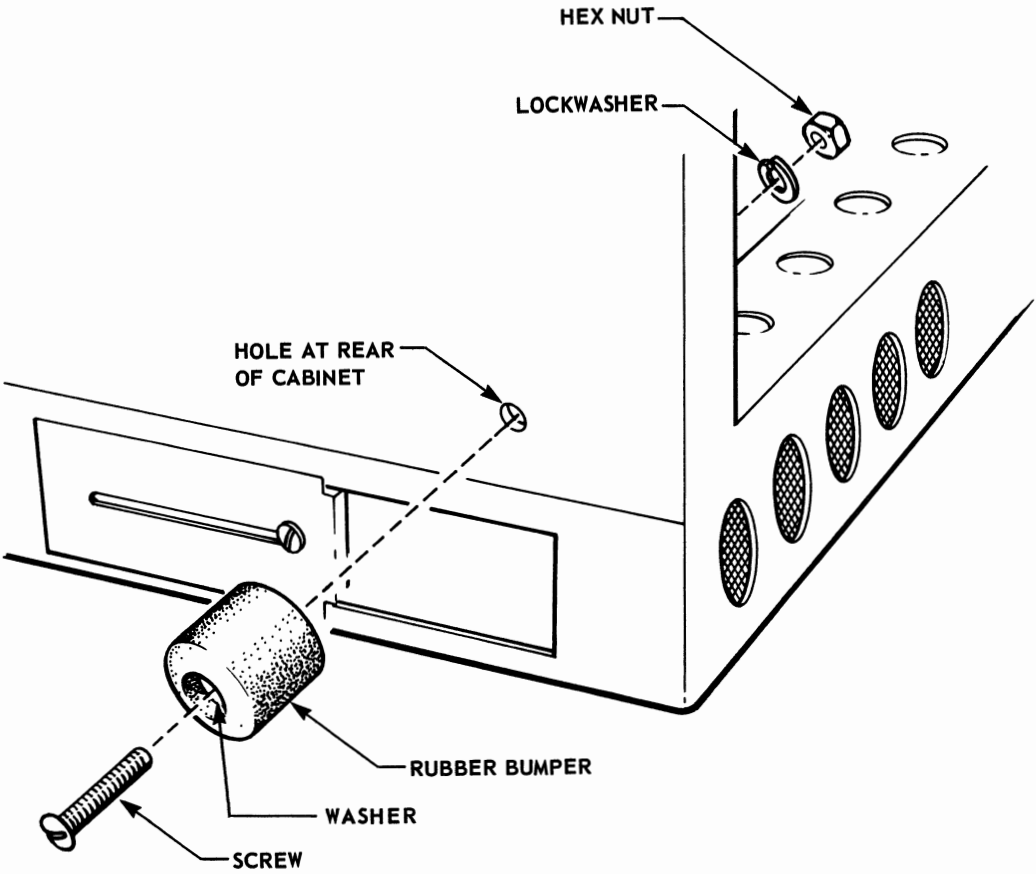

Fig. 6 – Detail of Rubber Rear Stop Assembly
- (5) Ensure that the washer molded in the reset end of the rubber-bumper is present.
- (6) Insert the bolt in the rubber-bumper as shown in Fig. 6.
- (7) Insert the protruding end of the bolt in the hole from which the bolt was removed in Step 4 above.
- (8) From the inside of the cabinet place lockwasher, and fasten the nut to the bolt.
- (9) Tighten the nut securely.
- (10) Return the slide to its original position.
- (11) Repeat the above operations for the rubber-bumper at the rear of the other slide.